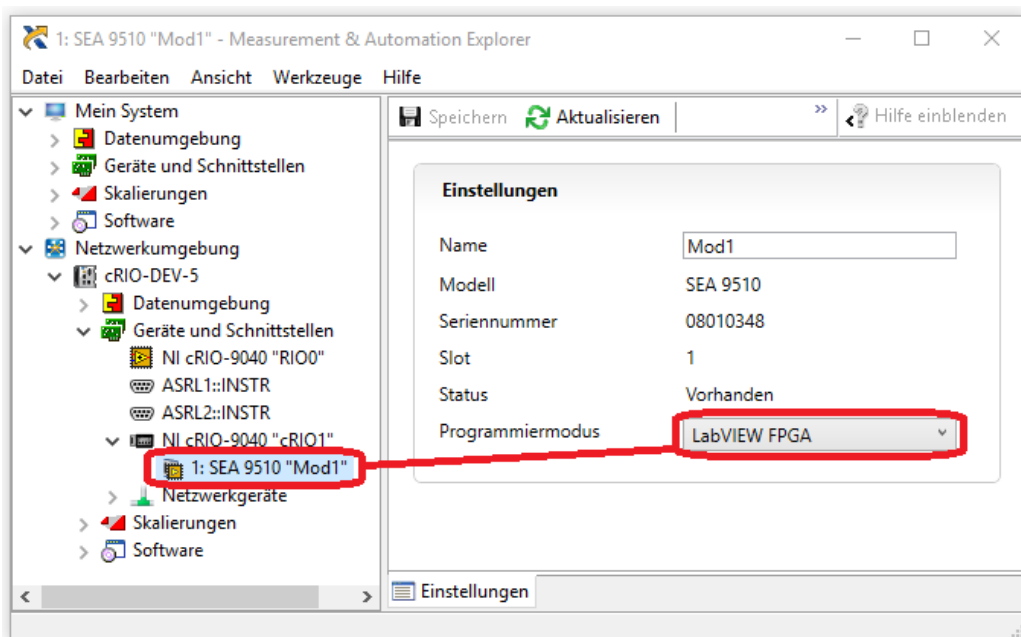

Fig. 1: Quick Start – NI-MAX configuration
5. Detect/add the NI CompactRIO system in the NI-MAX (*Measurement & Automation Explorer*) *Remote Systems* (German: *Netzwerkumgebung*). In the *Devices and Interfaces* settings, ensure that the SEA 9510 is configured to the Program Mode *LabVIEW FPGA*, refer to Fig. 1. Close NI-MAX afterwards.